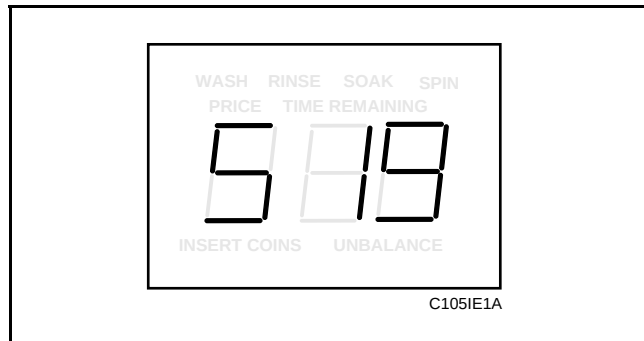

Figure 25
2. While pressing and holding the PERM PRESS keypad with one hand, press the COLD keypad with the other hand. Programmable option number one, “Slg”, will appear in the VFD. See **Figure 25**.